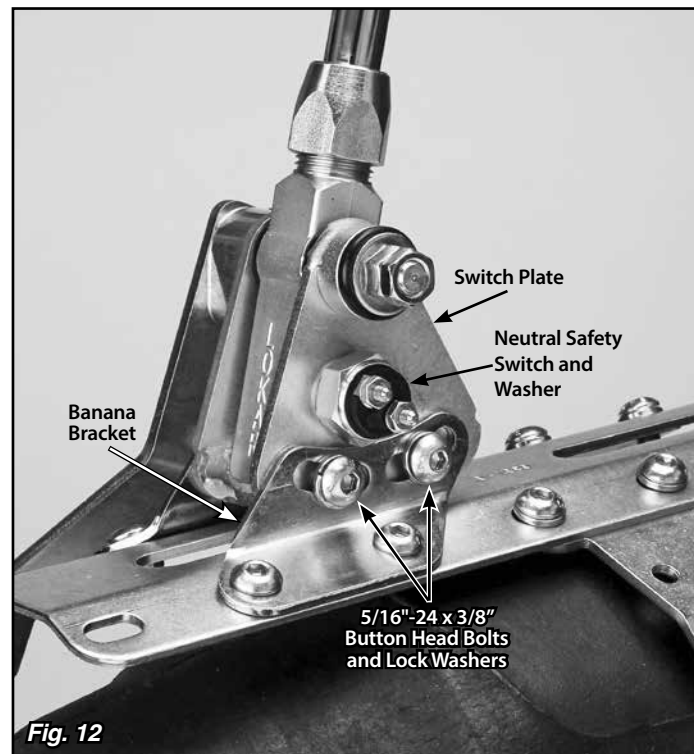

Fig. 12
Step 17: Remove the neutral safety switch and washer from the switch plate on the **passenger** side of the shifter using a 7/8" wrench or socket. **Fig. 12**
Step 18: Loosen, but do not remove, the two 5/16"-24 x 3/8" button head bolts and lock washers that attach the switch plate to the passenger side banana bracket (the bolts are in curved, slotted holes). **Fig. 12**